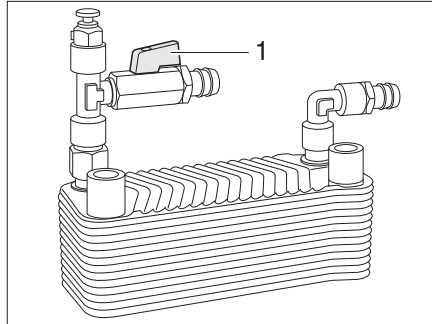

Fig. 296 Alde heat exchanger
- Turning on:* ■ Set stopcock handle (Fig. 296,1) parallel to the pipe.
- Shutting off:* ■ Set drain cock handle (Fig. 296,1) at a right angle to the pipe.